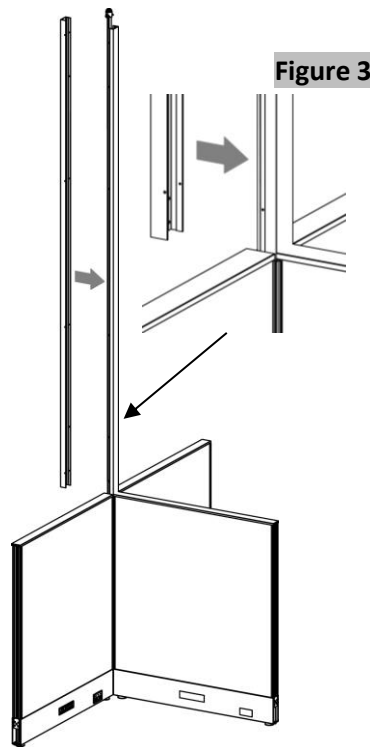

Figure 3
- 6. Lay the cables in the power pole. Engage the two halves of the power pole together and securely fasten them with #6-32 X 1/4" Zinc Round Head Phillips Drive Type F, (Figures 3 & 4).